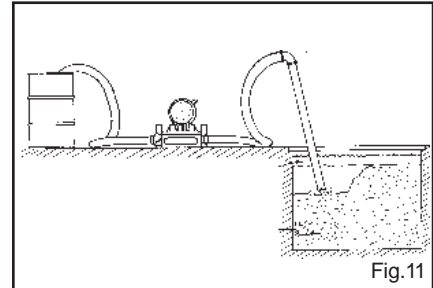

Fig.11
- **KEEP SOLIDS IN SUSPENSION** - When the pump is used to pump solid matter such as sludge at the bottom of a tank or to dredge out a section of a lagoon make sure the solids have enough liquid mixed in to allow it to flow. Raking or stirring while the pump is pumping will keep solids in suspension. Rule of thumb in pumping viscous liquids or combinations of liquids with solids, "If It Will Not Flow Through A Line Under Gravity, The Pump Will Most Likely Not Pump It." Fig.11